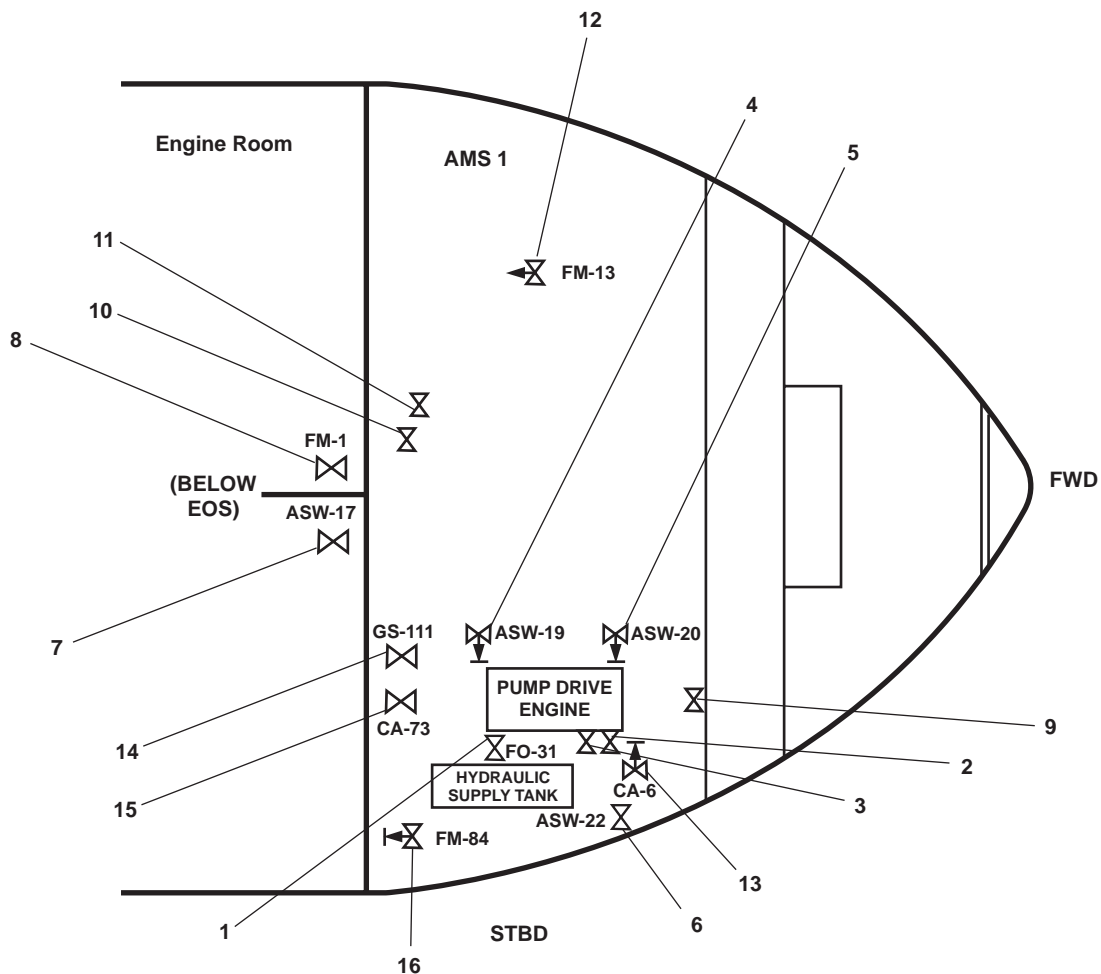

Figure 11. Diesel Engine Driven Firefighting Pump Valve Locations
- a. FO-31, F.O. SPLY TO PMP DRV ENG (figure 11, item 1), fuel oil supply to the pump drive engine
- b. Fuel oil filter/water separator outlet valve (figure 11, item 2)
- c. Fuel oil filter/water separator inlet valve. (figure 11, item 3)
- d. Asw-19, S.W. TO PUMP DRIVE ENG (figure 11, item 4), raw water to pump drive engine
- e. Asw-20, S.W. FR. PUMP DRIVE ENG. TO OVB'D DISCHARGE (figure 11, item 5), raw water from pump drive engine to overboard discharge
- f. Asw-22, OVB'D DISCH., S.W. COOLING (figure 11, item 6)
- g. Asw-17, SEA SUCTION S.W. COOLING (figure 11, item 7), raw water cooling suction valve, located in the engine room below stairs to AMS 1.
- h. FM-1, SEA SUCT, F.F. PMP. (figure 11, item 8), fire pump raw water suction valve, located in the engine room below the EOS.
- k. FM-96, fire main pressure gauge (figure 11, item 9), located on the forward bulkhead of AMS 1 near the pump drive engine.
- l. FM-97 and FM-99, AFFF proportioner differential pressure gauge valves (figure 11, items 10 and 11), located in the overhead on the AFFF proportioner line in AMS 1.
2. Verify that FM-13, F.F. TO F.M. CRSVR (figure 11, item 12), firefighting pump to fire main cross connect, is CLOSED.
- a. OPEN valve CA-6, STG AIR TO PMP DR ENG (figure 11, item 13), starting air to the pump drive engine.
- (1) GS-111, FF PMP PRM EDUCTOR DISCH (figure 11, item 14), the fire pump priming eductor discharge valve, located in AMS 1 on the port side, near the fire pump.
- (2) CA-73, SVCE AIR TO FF PMP PRM EDUCTOR (figure 11, item 15), service air to the fire pump prime, to start the eductor.
- (1) CA-73, SVCE AIR TO FF PMP PRM EDUCTOR (figure 11, item 15) to stop the eductor.
- (2) GS-111, FF PMP PRM EDUCTOR DISCH (figure 11, item 14)